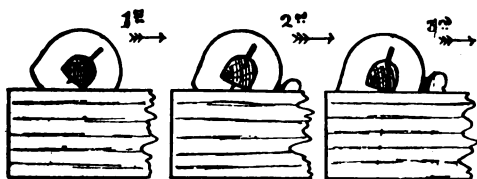
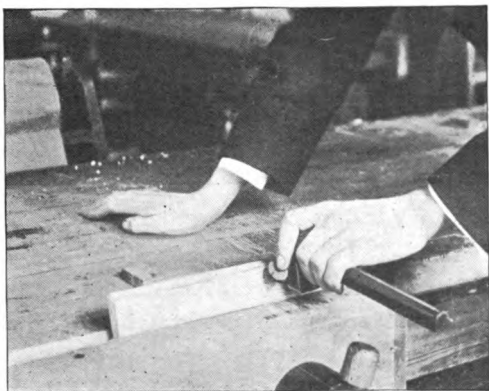
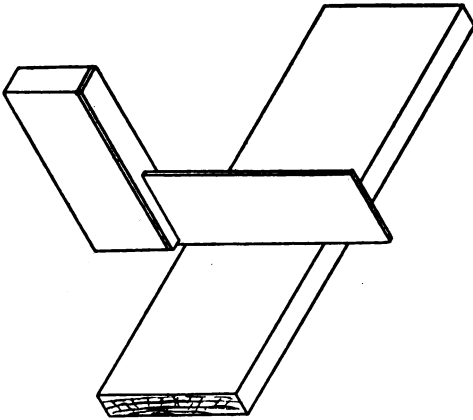
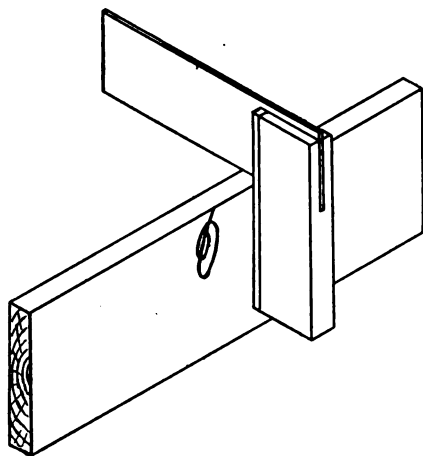

FIG. 14.
FIG. 13.
FIG. 31.
FIG. 34.
**Teaching Method.**—Commence by marking off and sawing to size, 10in., and then mark off the grooves with a marking knife on the face and lightly down each edge, and then set the marking gauge (Fig. 12) to the depth of grooves (Fig. 9). The actual gauging is an operation which although easy, requires a lot of care, and attention must be paid to Fig. 13. The stock must be kept close to face side or else the spur will run with the grain. Fig. 14 shows how gauging may be taught in motions: 1st, by running the gauge along without making a mark; 2nd, by repeating the movement with the spur lightly touching the wood; 3rd, by finishing with the spur a little deeper.
***Method.***—The gauge-lines in this exercise are more difficult, but with the practice gained in the previous exercises they should be well done. Fig. 22 shows the best way of holding wood and gauge, and the same method (Fig. 14) used as in edge-gauging. After the grooves are marked out, place the wood on a paring board, hold chisel as shown in Fig. 23, and pare with thin shavings down to the proper depth. Repeat this in the case of all the grooves, finishing one at a time.
smooth with the straight edge, placed across the diagonals and from end to end (Fig. 38), and also with try square (Fig. 31). Care must be exercised that the surface is quite true, and the use of an apparatus like Fig. 26 will probably be found very useful; the
the left; a shaving would come off the whole width if the plane were held as at "b," and the order is reversed at "c." The tests for the edge should be with the straight edge and try square (Fig. 34); when finished place the mark on, and this leaves the wood ready for gauging to width. Set the gauge to  $1\frac{3}{4}$  in. and gauge as in Fig. 22,
then plane to the line, testing after every few shavings as in Fig. 34. The last operation is planing to thickness. Gauge as in Fig. 13 on both edges, and carefully plane to both lines, using the try square held as in Fig. 31 for a test.